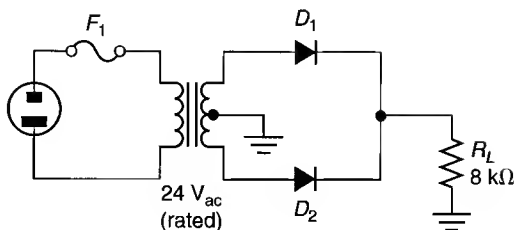

FIGURE 3.56
20. Determine the values of $V_{L(pk)}$, V_{ave} , and I_{ave} for the circuit shown in Figure 3.56.
23. Determine the PIV of the circuit shown in Figure 3.56.